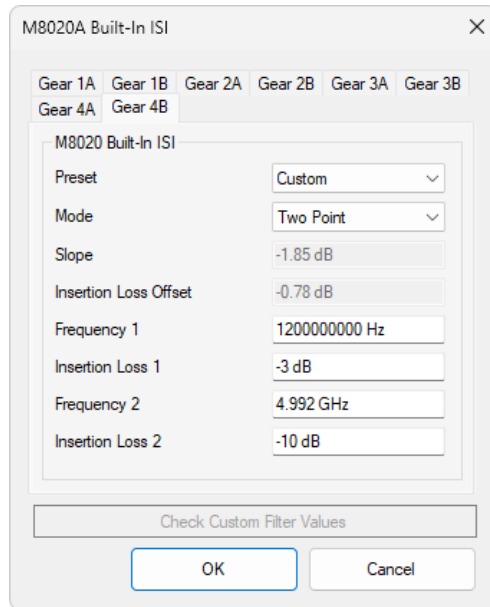

Figure 2-16 M8020A Built-in ISI dialog
When an M8020A configuration is used, the M8020A ISI Setting button appears just below the Special Parameters button in the Configure DUT dialog (Figure 2-6 on page 29). It is enabled if you are working in Expert Mode. Then, clicking this button opens the dialog shown in Figure 2-16. If the Preset is chosen as “Physical Trace,” none of the other settings are visible.
- Custom: The preset is defined by selecting the properties shown in Figure 2-16 and described below.